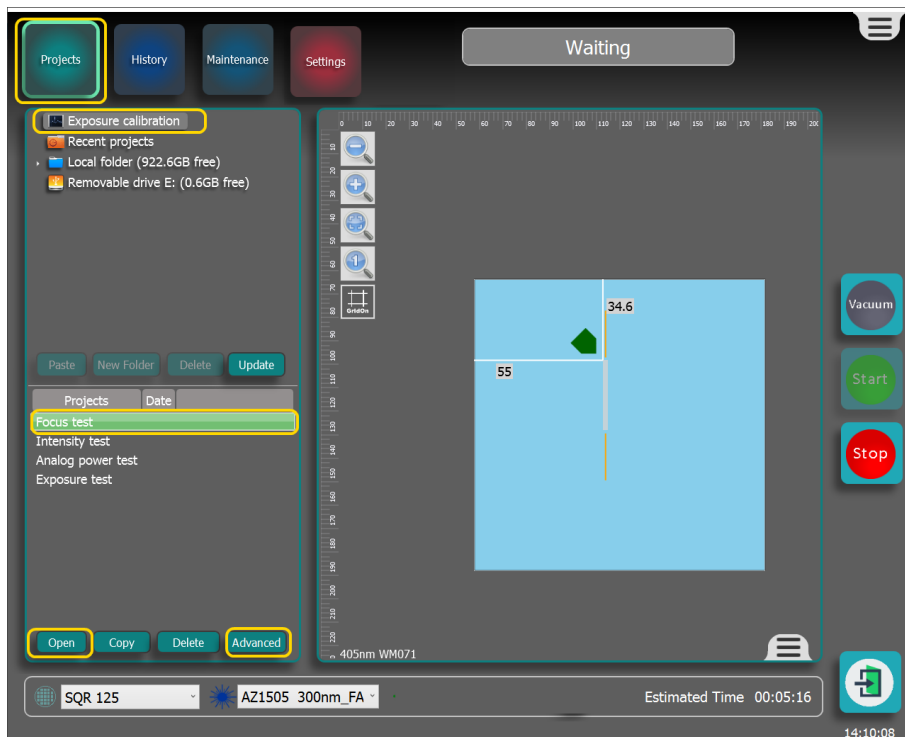

Figure 3-67 Preparing the Focus Test
2. To start the Focus offset test, select **Projects**, see **Figure 3-67** below.